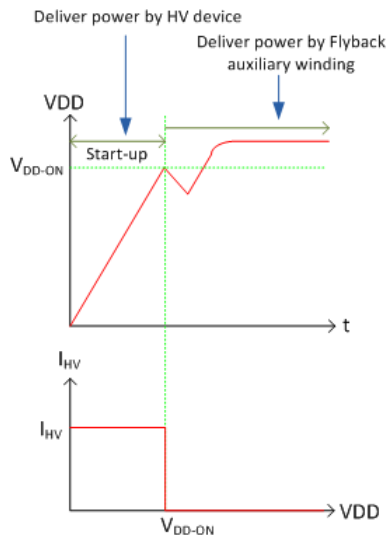

Figure 24. VDD Start-up Waveform
A high voltage device is designed as a current source for the controller during the start-up. It doesn't need any external circuit for start-up. This current source will be turned-off after the AOZ7523 is powered on. The start-up waveform of VDD is shown as Figure 24. The High Voltage (HV) pin also features Brown-in, Brown-out and Bleeding Resistor Removal functions.